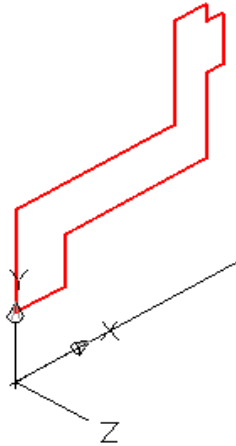

Figure Step 6
Step 6 On layer Construction, from 0,0,0 draw a line of any length along the X axis. If you use ortho mode, you can draw it quickly. This will be the axis for the revolution. See Figure Step 6.